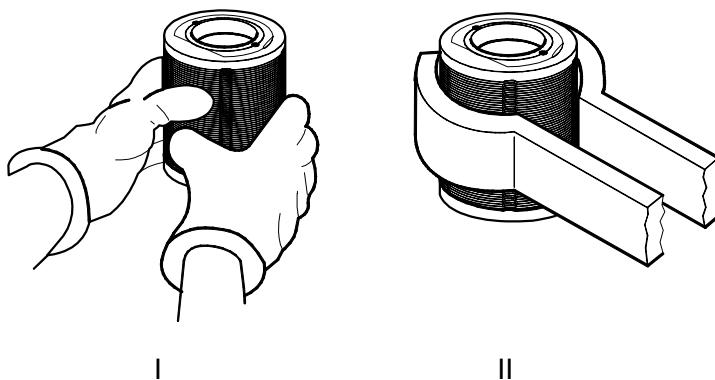

Fig. 5 Transport of the components
- Lifting gear, gripper, lifting tackle (Fig. 5):